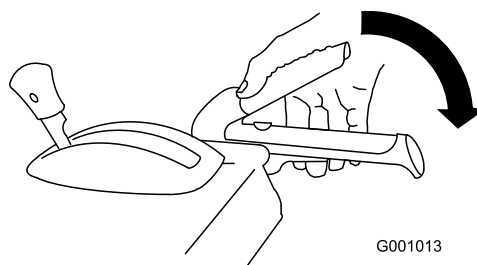

Figure 40
1. To engage the auger/ impeller drive, squeeze the right hand (auger/ impeller) lever to the handgrip (Figure 40).